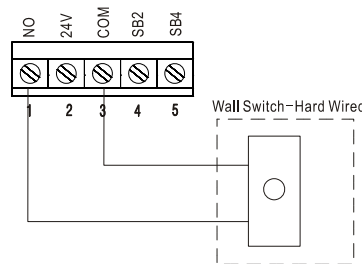

Fig. 15
- Normally open momentary contact Wall Switch (Fig.15)